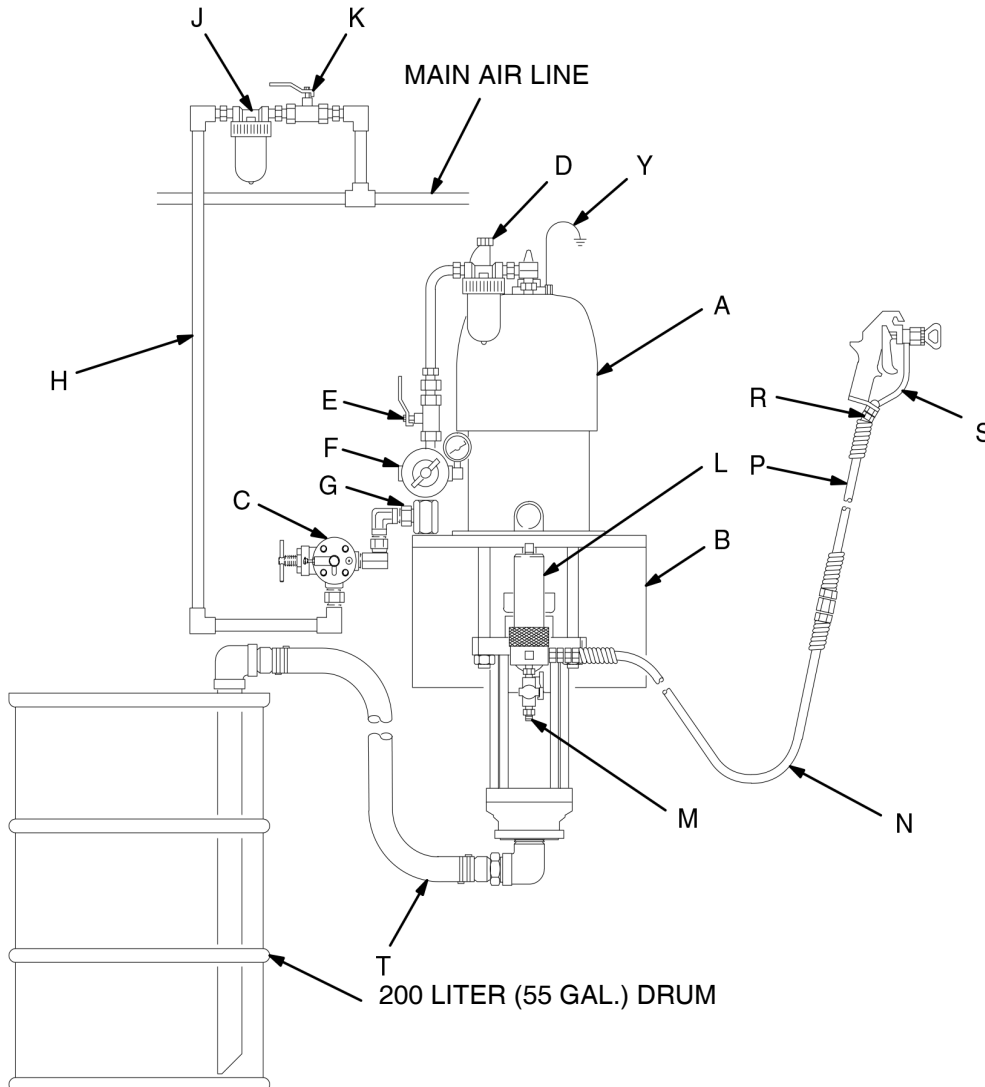

Fig.4
Fig. 4 is only a guide for selecting and installing system components and accessories. Contact your Graco distributor for assistance in designing a system to suit your particular needs.
Mount the pump (A) to suit the type of installation planned. Fig. 4 illustrates a wall-mounted system. Pump dimensions and the mounting hole layout are shown on pages 40 and 41.
Install the following accessories in the order shown in Fig. 4, using adapters as necessary:
Install the following accessories in the positions shown in Fig. 4, using adapters as necessary:
- **A fluid filter (L)** with a 60 mesh (250 micron) stainless steel element, to filter particles from the fluid as it leaves the pump. It includes a **fluid drain valve (M)**, which is required in your system to relieve fluid pressure in the hose and gun (see the **WARNING** at left).
- **A gun or valve (S)** dispenses the fluid. The gun shown in Fig. 4 is an airless spray gun for light to medium viscosity fluids.
- **A gun swivel (R)** allows freer gun movement.
- **A suction kit (T)** allows the pump to draw fluid from a 200 liter (55 gallon) drum.